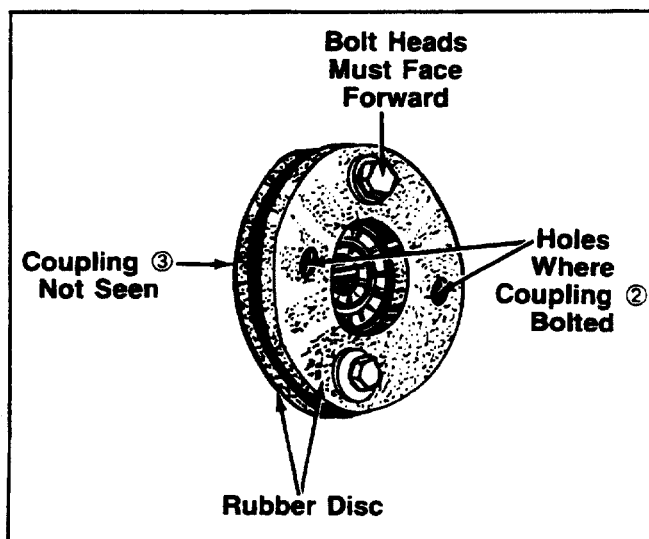

FIGURE 8.
- Remove the bolts and nuts on coupling ③; reverse the bolts and nuts so that all bolt heads are facing forward (to the front of the tractor). See figure 8. Units with serial no. 756,301 and above will already have bolt heads facing forward.